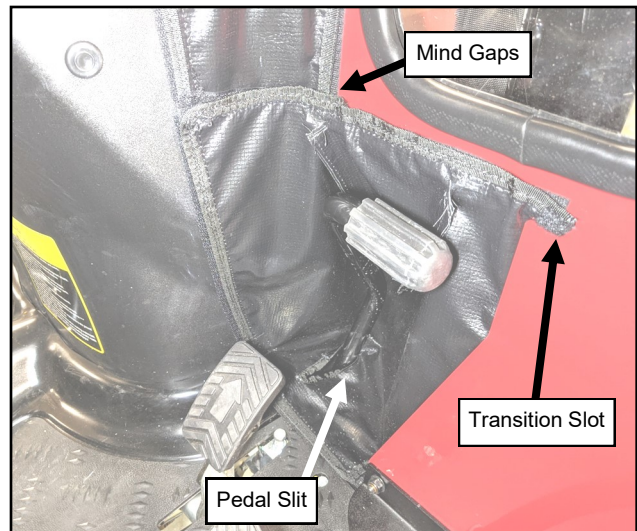

Fig. 14.6 (Right Side Filler)
- 14.6** Slide the Right Side Filler over the brake pedal through the pedal slit in the bottom and set into place. See Figure 14.6. Do not secure Velcro at this time.
- 14.7** Slide the top right edge of the filler through the transition slot. See Figure 14.6. Secure the top of the filler to the left/center filler and cowl, then secure sides, followed by the bottom along the floor pan.